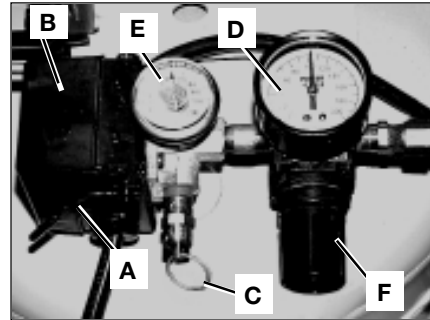

Fig. 1
ON/AUTO - OFF Switch (A) Fig. 1: Turn this switch ON to provide automatic power to the pressure switch and OFF to remove power at the end of each use.
Pressure Switch (B) Fig. 1: The pressure switch automatically starts the motor when the air tank pressure drops below the factory set "cut-in" pressure. It stops the motor when the air tank pressure reaches the factory set "cut-out" pressure.
Safety Valve (C) Fig. 1: If the pressure switch does not shut off the air compressor at its cut-out pressure setting, the safety valve will protect against high pressure by "popping out" at its factory set pressure (slightly higher than the pressure switch cut-out setting).
Outlet Pressure Gauge (D) Fig. 1: The outlet pressure gauge indicates the air pressure available at the outlet side of the regulator. This pressure is controlled by the regulator and is always less than or equal to the tank pressure.
Tank Pressure Gauge (E) Fig. 1: The tank pressure gauge indicates the reserve air pressure in the tank.
Regulator (F) Fig. 1: Controls the air pressure shown on the outlet pressure gauge. Pull the knob out and turn clockwise to increase pressure and counterclockwise to decrease pressure. When the desired pressure is reached push knob in to lock in place. To avoid minor readjustment after making a change in pressure setting, always approach the desired pressure from a lower pressure. When reducing from a higher to a lower setting, first reduce to some pressure less than that desired, then bring up to the desired pressure. Depending on the air requirements of each particular accessory, the outlet regulated air pressure may have to be adjusted while you are operating the accessory.